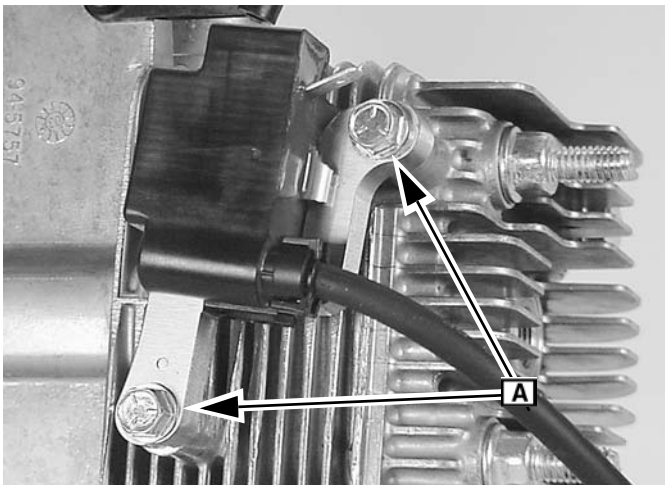

Fig. 24
1. Remove the two bolts **A** that hold the ignition module to the head (Figure 24).